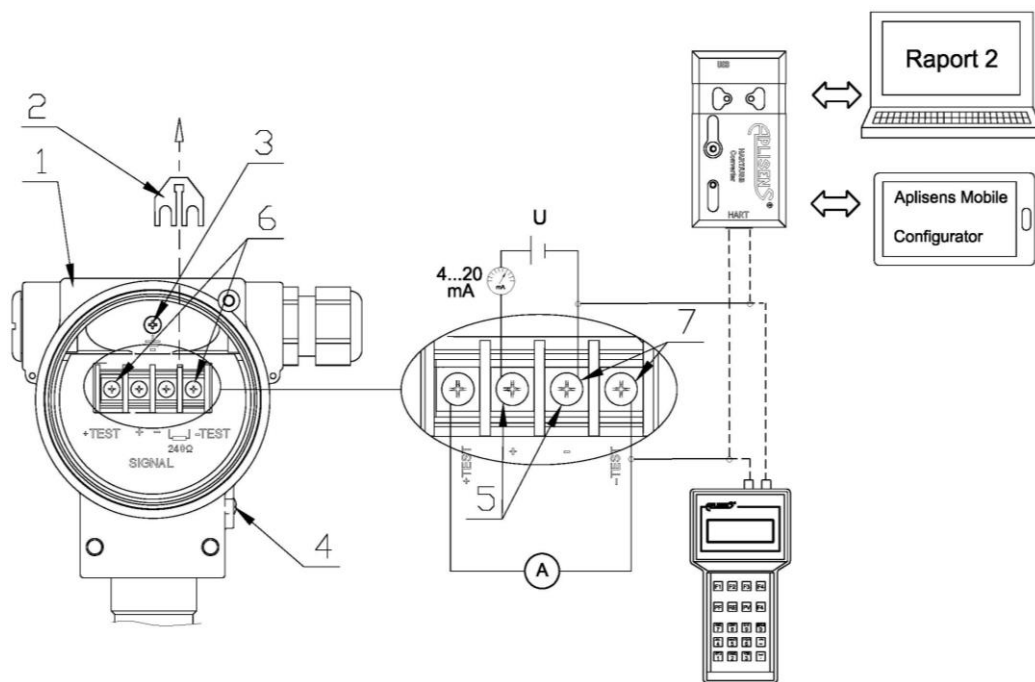

Figure 32. Electrical connection 4...20 mA of HART to transmitter in standard version.
- remove HART communication jumper ②;
- after completing the communication, install the HART communication jumper ② on the correct position according to (→ Figure 32);